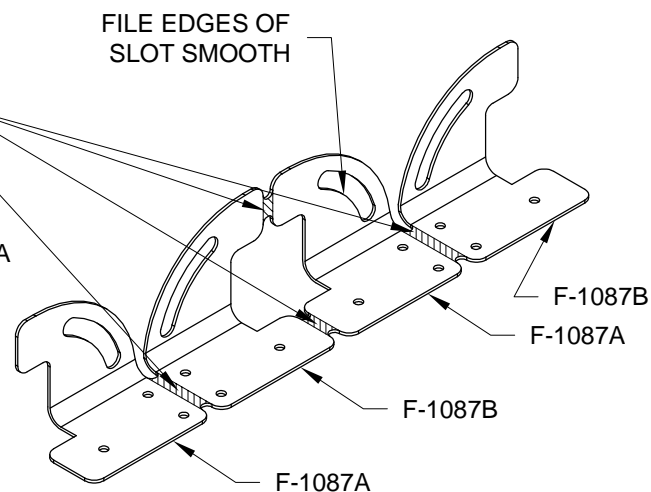

FIGURE 2: CUTTING APART THE VENT SLIDES
Step 1: Cut apart the F-1086 Vent Bracket into two F-1086A and two F-1086B Vent Brackets as shown in Figure 1. Cut apart the F-1087 Vent Slide into two F-1087A and two F-1087B Vent Slides as shown in Figure 2.